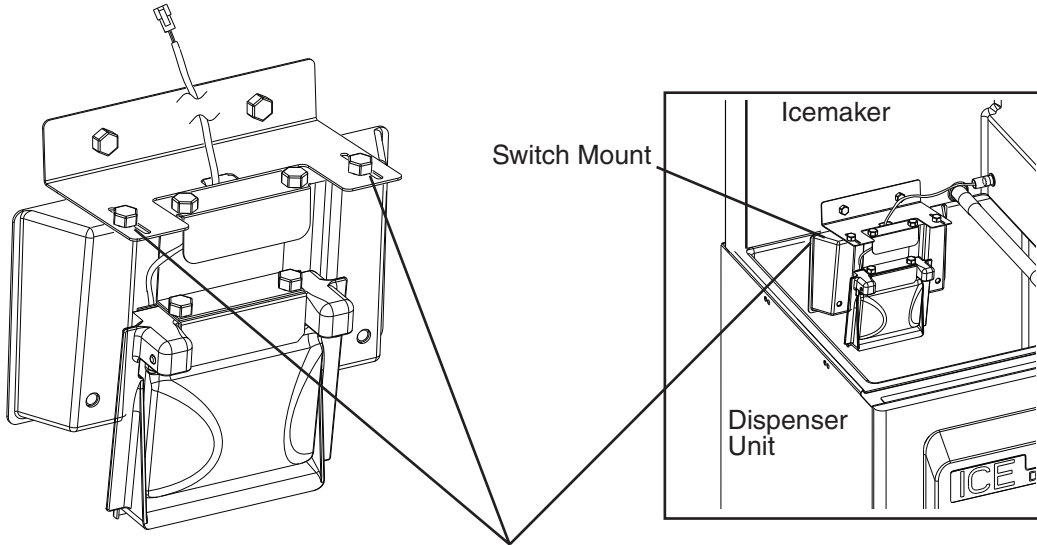

**Fig. 10**
- 1) Remove the 2 outer switch cover thumbscrews from the switch cover. See Fig. 10.